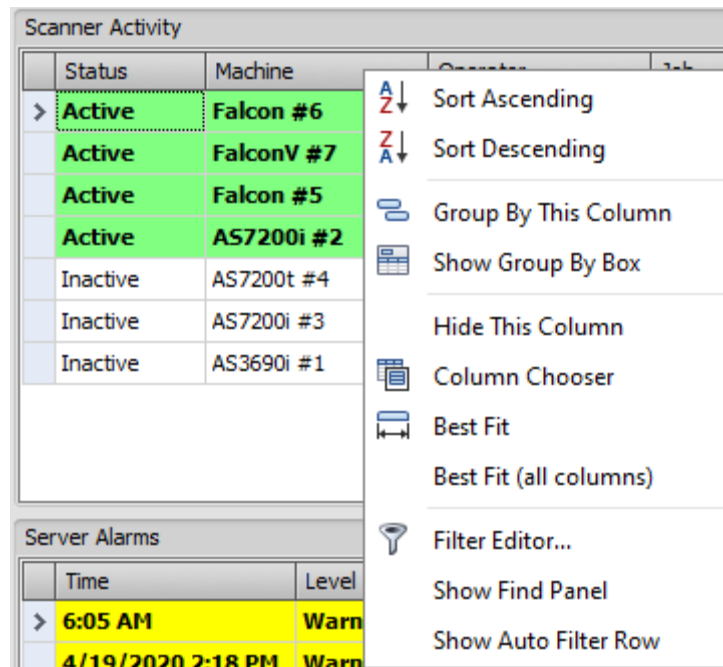

Figure 3-5: Filtering tabs
- If you right-click on any of the Scanner Activity tabs, a window where you can sort the criteria will appear (Figure 3-5).